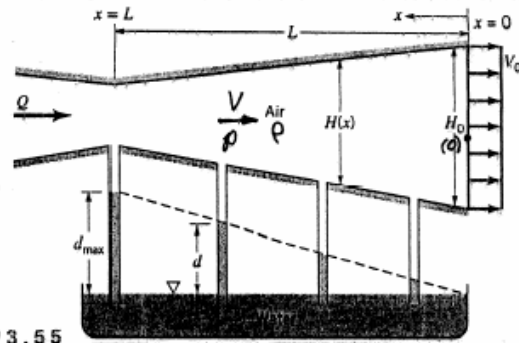

FIGURE P3.55
3.55 Air flows steadily through a converging-diverging rectangular channel of constant width as shown in Fig. P3.55 and Video V3.6. The height of the channel at the exit and the exit velocity are H_0 and V_0 , respectively. The channel is to be shaped so that the distance, d , that water is drawn up into tubes attached to static pressure taps along the channel wall is linear with distance along the channel. That is, $d = (d_{\max}/L)x$, where L is the channel length and d_{\max} is the maximum water depth (at the minimum channel height; $x = L$). Determine the height, $H(x)$, as a function of x and the other important parameters.